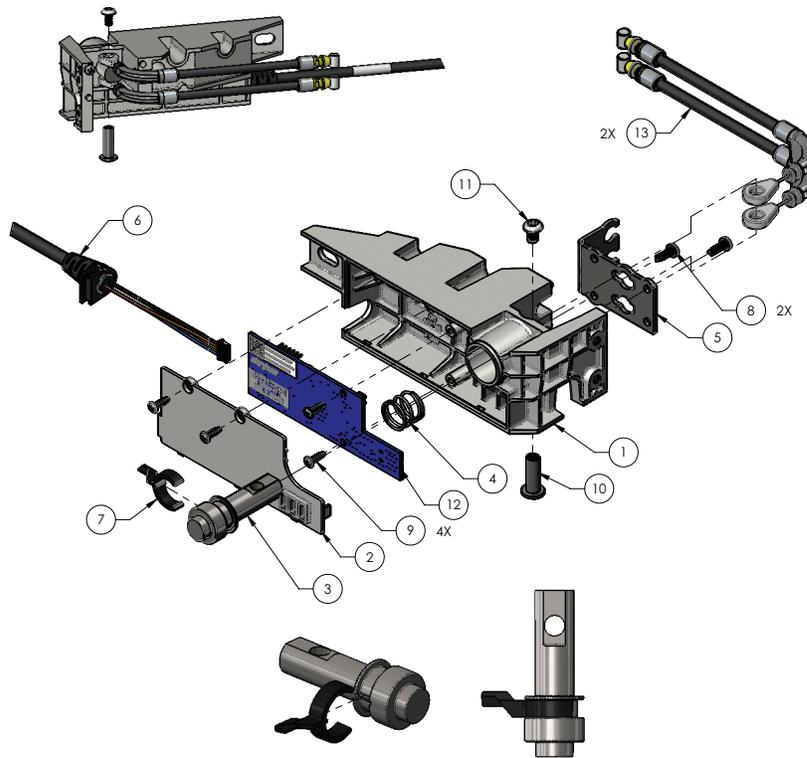

Figure 20 – DPM board replacement, mid
13. Using a #2 Phillips screwdriver, remove and save the two screws (9) that secure the DPM cover (2) and remove and save the cover (Figure 20).
14. Using a #2 Phillips screwdriver, remove and save the two screws (9) that secure the DPM board (12) to the DPM assembly (Figure 20).